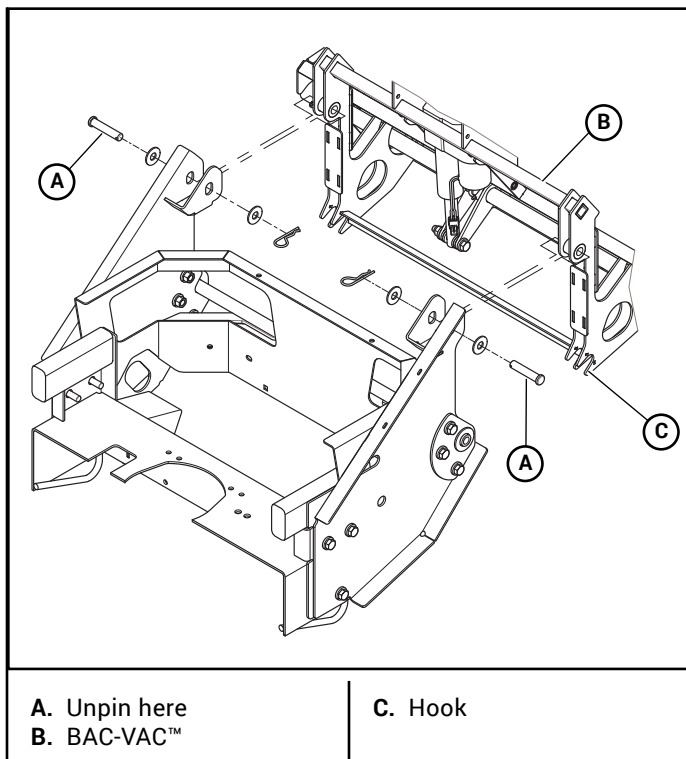

Figure 4-21
4. Unpin the BAC-VAC™ assembly from the side mount brackets and pivot it until the lower hooks clear the mount spacer. Figure 4-21